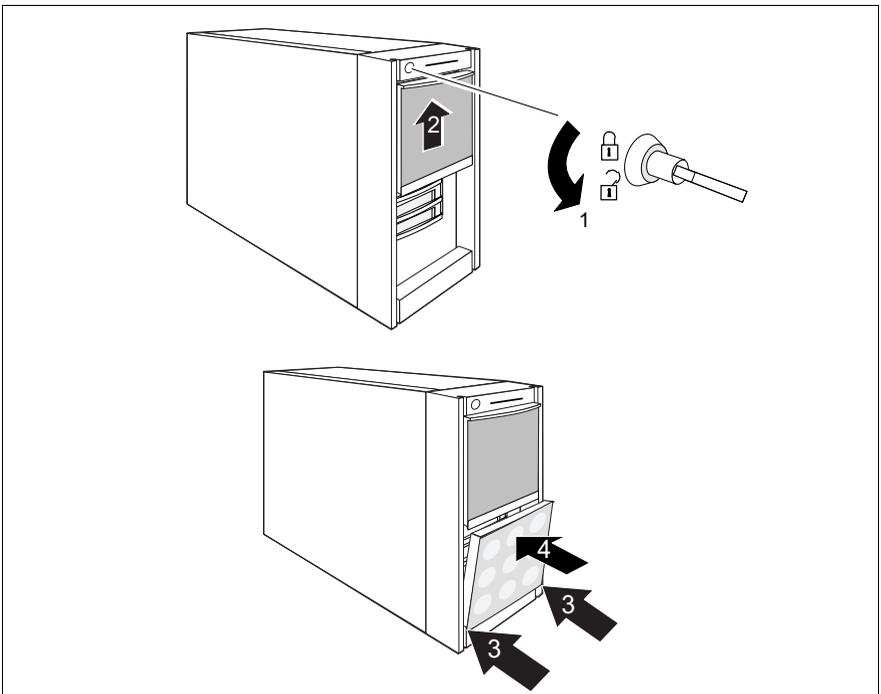
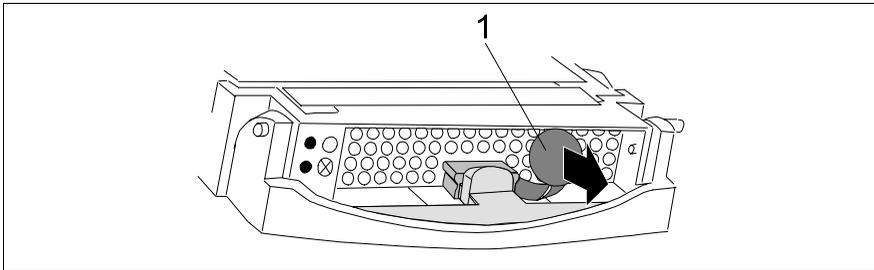

Figure 2: Mounting HDD cover
Figure 3: HDD module: remove the transport lock
- ▶ Unlock the server (1) and remove the key (figure 2).
- ▶ Slide up the accessible drives cover (2) as far as possible (2).
- ▶ Hook the tabs of the HDD cover of into the recesses (3) and push the top end of the HDD cover (4) in direction of the arrow until it engages.
- ▶ The HDD modules are provided with a transport lock (1). Remove these before you setup the server (figure 3).